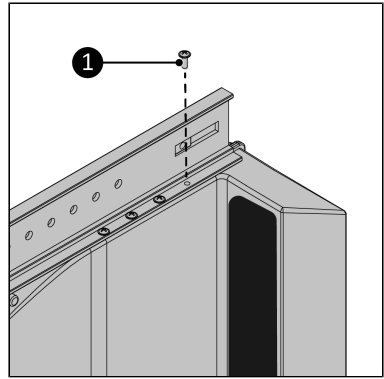

Figure 79.
- Screw the main rail to the Way-out using the eight 3,5 x 12 mm screws (Figure 79, pos. 1). Make sure all screw holes match up.